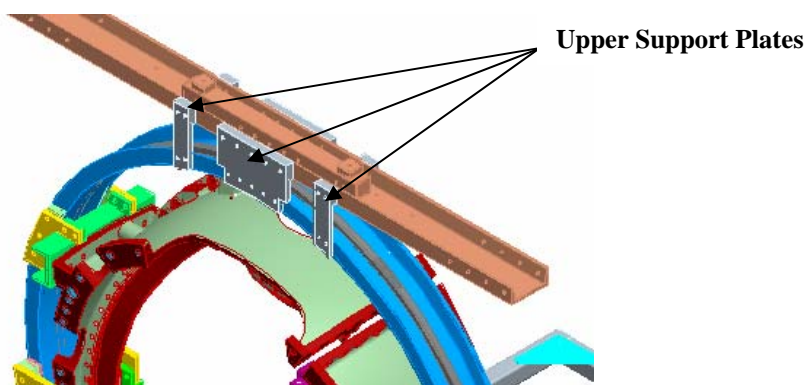

Figure 7- Upper Support Plates
- Using a pneumatic impact wrench remove the upper support plates between the support-ring and lift beam. Figure 7- Upper Support Plates This operation must be verified prior to operating turning fixture.